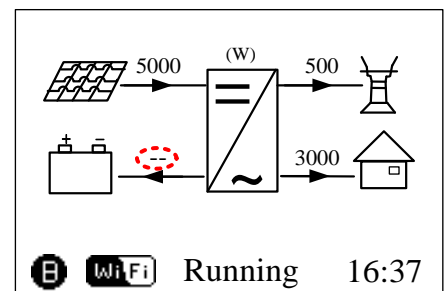

Figure 5 SH5K Home Screen
Step 5: Watch the SH5K home screen. If you see '--', the communication is not correctly connected (Figure 5). You should swap pins 4 and 5 of the Ethernet cable.